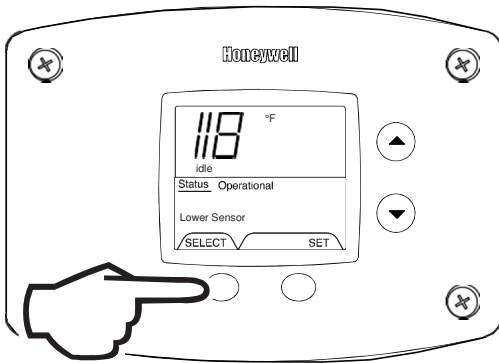

Fig. 46
- For water heaters using two temperature sensors, pressing the 'Select' button again displays the Lower Sensor temperature reading. 'Lower Sensor' will be displayed in the lower left side of the status window of the water heater display (Fig. 46).